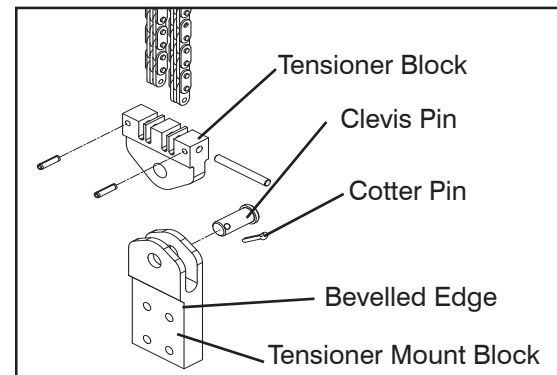

Figure 5-47. Inner Chain Mount Installation
2. Center the chain pin in the mount then install the spring pins and tap until flush. See Figure 5-47.
3. Install the tensioner block to the tensioner mount block with use of the clevis pin and cotter pin. Ensure the bevelled edge side is facing up. See Figure 5-47.
4. Install the tensioner mount assembly to the other end of the double chain, following steps 1 and 2. Ensure chains are in the correct orientation. See Figure 5-47.